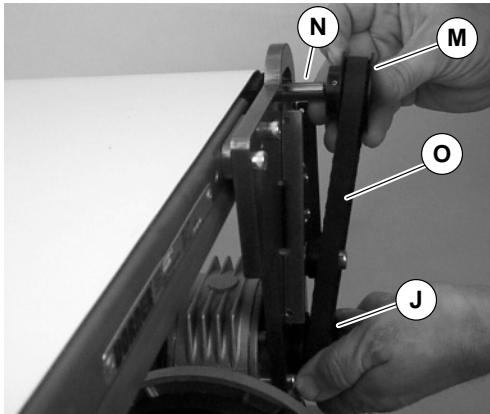

Figure 11
8. Install key (N of Figure 11).